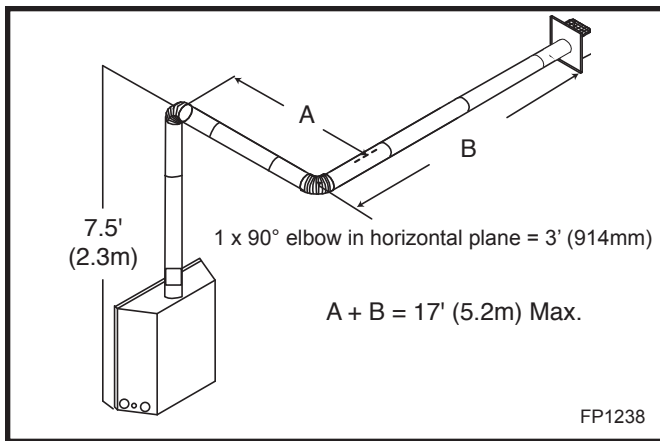

Fig. 19 Maximum vent run with elbows.
- The maximum number of 90° elbows per side wall installations is three (3).
- Example:** According to the chart the maximum vertical vent length in a system with a 7.5' (2.3 m) horizontal rise is 20' (6 m) and if a 90° is required in the horizontal vent it must be reduced to 17' (5.2 m). In Figure 19, Dimension A plus B must not be greater than 17' (5.2 m).
- The maximum number of 45° elbows permitted per side wall installation is two (2). These elbows can be installed in either the vertical or horizontal run.